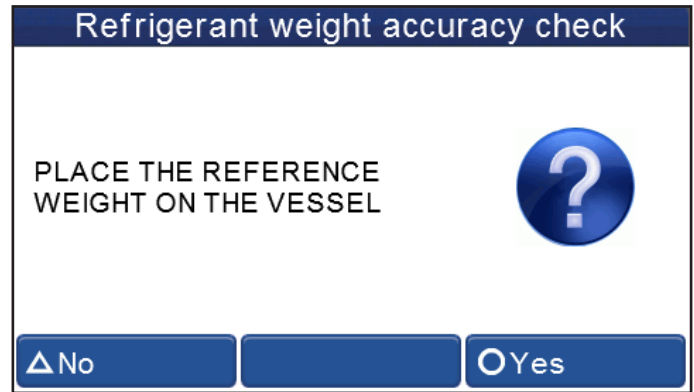

Fig. 55: Place weight screen
6. Follow the instructions on the screen and when the screen in Fig. 55 is displayed, place the reference weight below the tank over the two screws of the load cell and press **YES**.